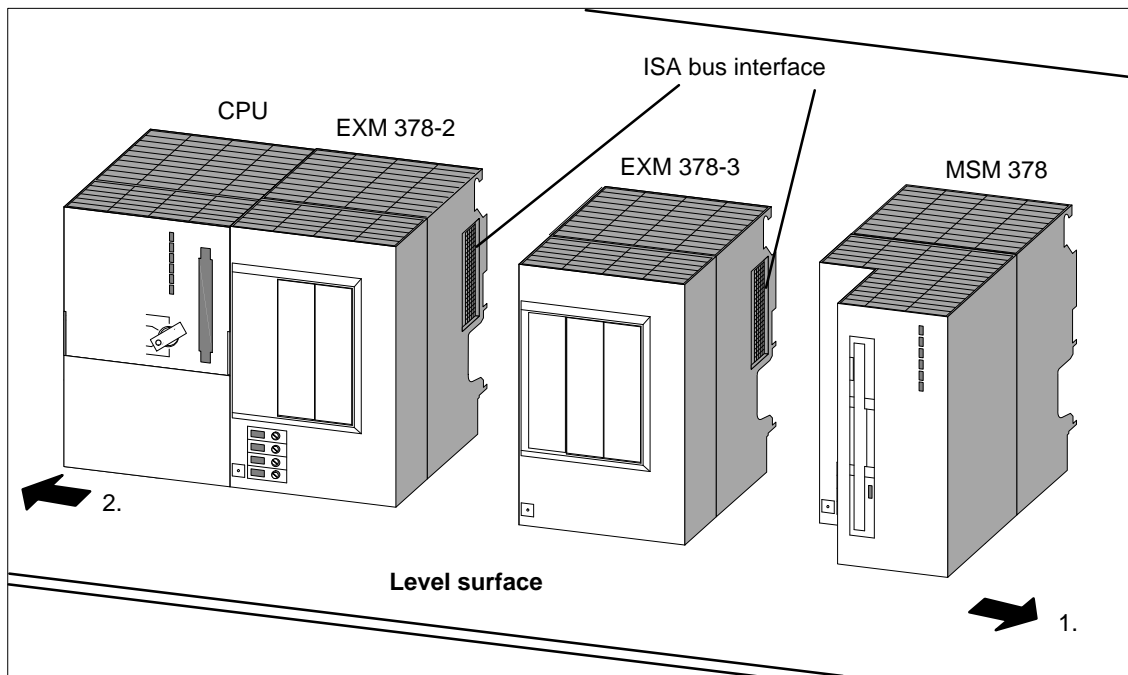

Figure 9-8 Separating a Module Assembly to Allow Replacement of Expansion Module EXM 378-3
12. Pull the adjacent modules carefully away from the module to be replaced, so that the ISA bus connection is detached (Figure 9-8).